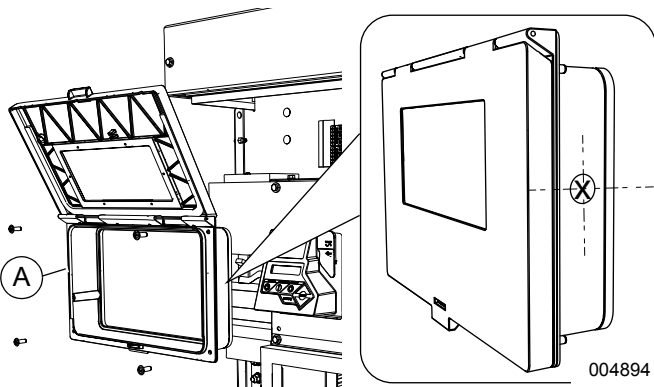

Figure 6 - Prepare Customer Access Cover
1. See **Figure 6**. Open viewing window located on rear enclosure panel. Remove four corner screws and customer access cover (A). Mark an X on the outside of the customer access cover centered on the right side. This will be the center point for the switch mounting hole.